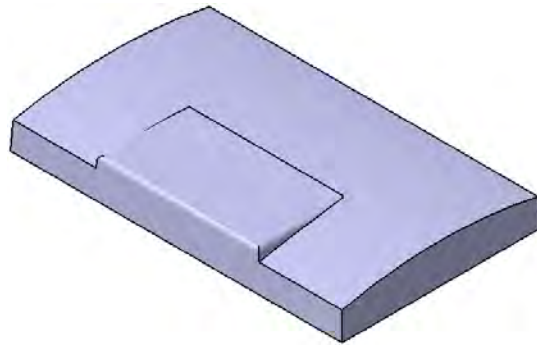

Figure 5-95 Model after filleting the first set of edges
3. Choose the **OK** button from the **Edge Fillet Definition** dialog box. The model, after filleting the first set of edges, is shown in Figure 5-95.